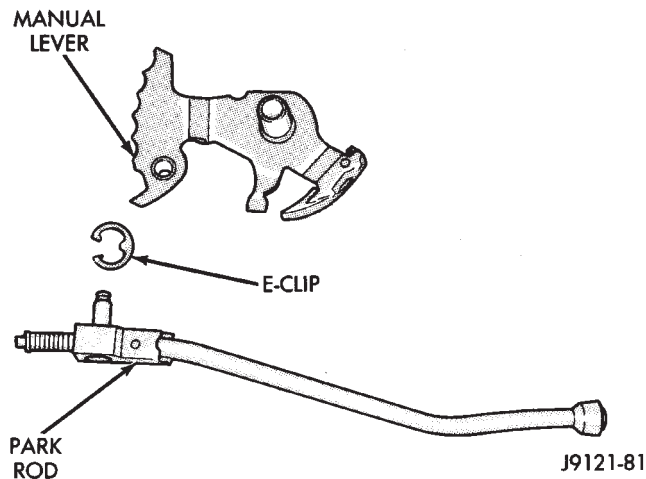

Fig. 63 Park Rod
(39) If necessary, insert park rod end into manual lever and install E-clip (Fig. 63).